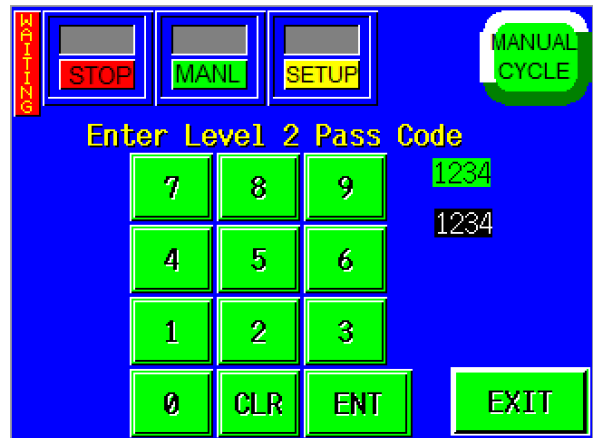

Figure 3-23
2. Level 2: This level pass code, when the pass code function is enabled, prevents the operator from accessing settings screens that affect the operation of the equipment. See Figure 3-23.